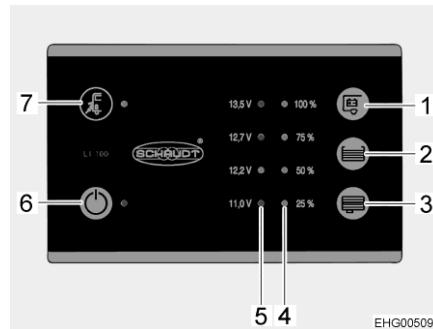

Fig. 42 Panel (LT 100)
The yellow LED at the mains connection symbol "⚡" (Fig. 42,7) is lit when the vehicle is connected to an external mains supply. In this case, the LED will also be lit when the panel is switched off.
The 12 V main switch (Fig. 42,6) switches the panel and the 12 V power supply of the living area on and off.
- Press switch "⏻" (Fig. 42,6): The 12 V living area power supply is switched on. The LED lights up green.
- Press switch "⏻" (Fig. 42,6) again: The 12 V living area power supply is switched off. The LED goes out.
The LED array (Fig. 42,5) displays the battery voltage of the living area battery as follows:
- Press the button " " (Fig. 42,1): The battery voltage of the living area battery is displayed.
The LED array (Fig. 42,4) displays the fill level of the fresh water tank or of the waste water tank.
Press the button "☰" (Fig. 42,2): The fill level of the fresh water tank is displayed by lit LEDs.
Press the button "☷" (Fig. 42,3): The fill level of the waste water tank is displayed by lit LEDs.